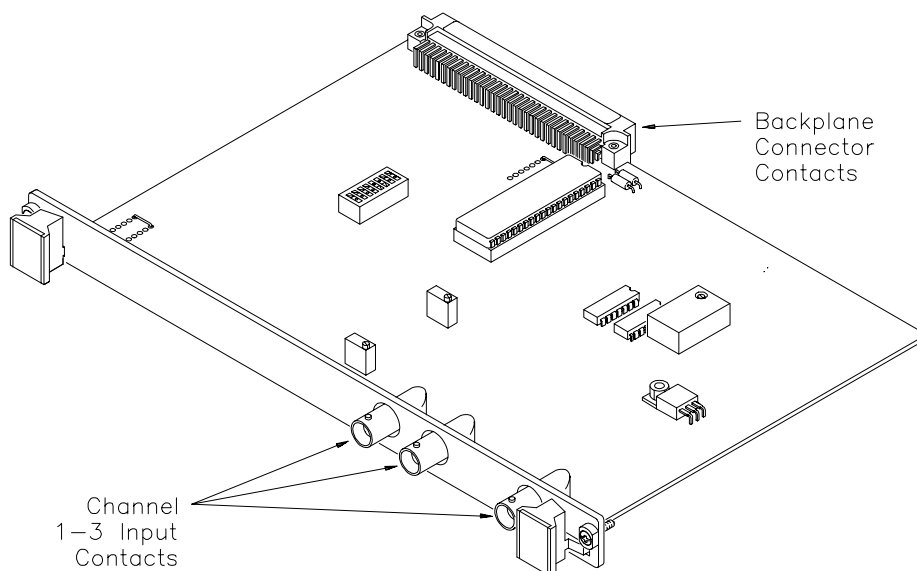

Figure 3-1. Cleaning the HP E133A Counter
3. Clean all contacts indicated in Figure 3-1.